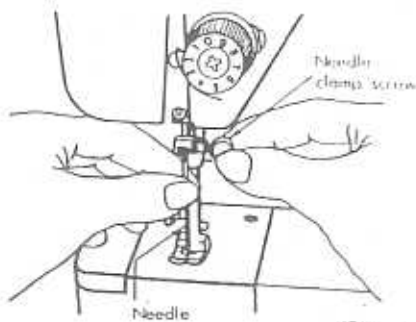

Fig. 9
- 3) Tighten needle clamp screw with a screwdriver. (Fig. 9)